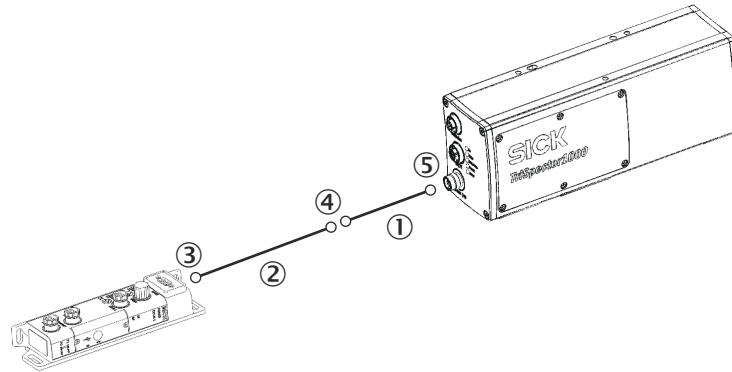

Figure 49: Connecting the TriSpector1000 to the CDF600-22xx by pre-assembled cables
1. Connect the TriSpector1000 to the CDF600-22xx by a connection cable (e.g. part no 2055419) and a cable adapter (part no 2086398) according to figure 49.